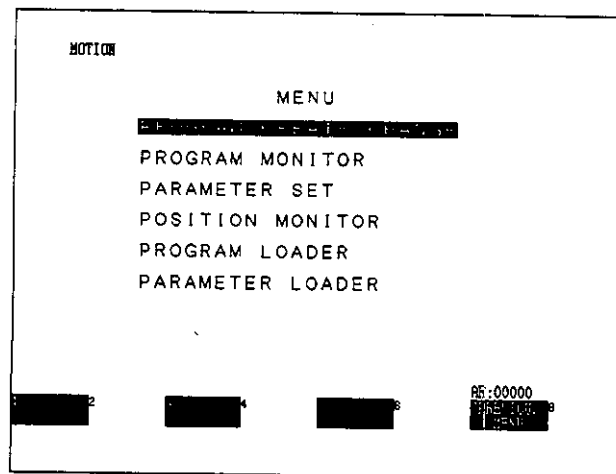

Figure 6.290
- 1) Display the menu shown in Figure 6.290.
- 1) Display the menu shown in *Figure 6.290*.